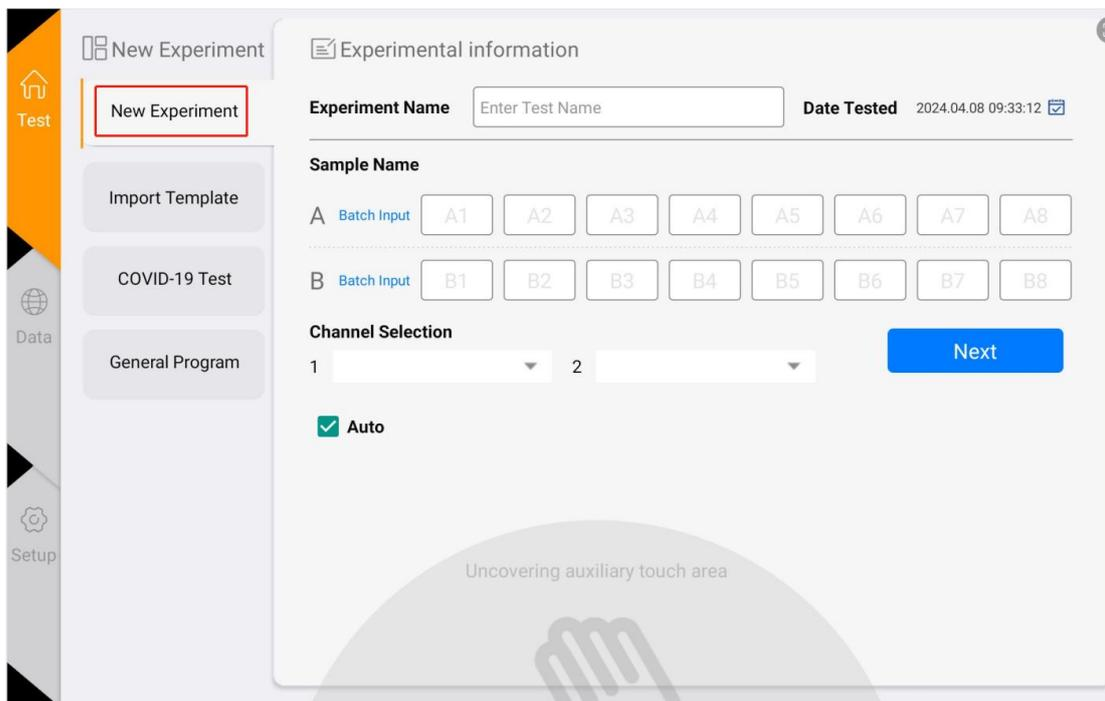
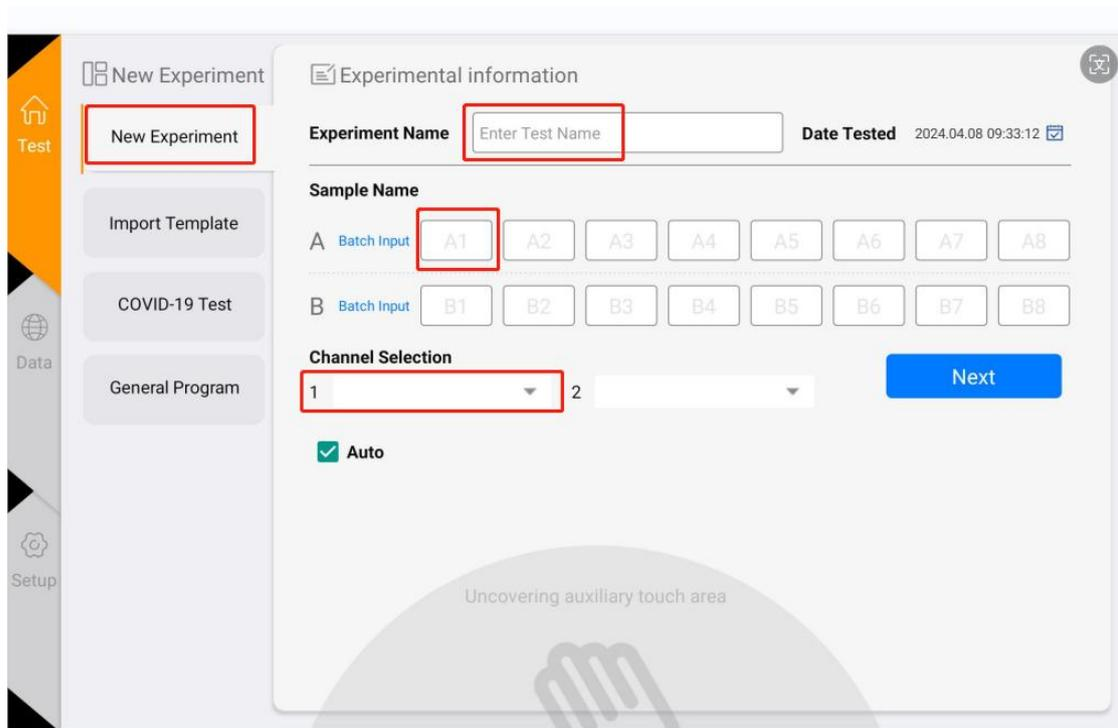

Figure 4-2-1 New experiment interface
Figure 4-2-2 Experiment Setting 1
- 1) In the Test interface, click <New Experiment>(Figure 4-2-1) the right panel is the Experiment Setting 1, in the Experiment Setting 1 (Figure 4-2-2), enter the experiment name, select the corresponding channel, select the well position, and enter the sample information, etc., and click "Next" to enter the Experiment Setting 2.